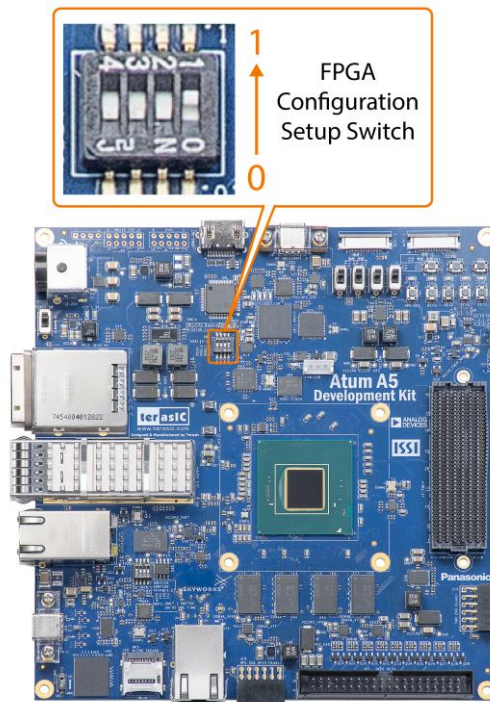

Figure 2-1 The MSEL pin setting
As shown in **Figure 2-1**, the mode select pin of the FPGA on the Atum A5 board has been set to **Active Serial (AS) Fast mode** using **FPGA Configure Setup Switch (SW4)**, For detailed information about SW4, please refer to section 2.2 : *FPGA Configure Setup Switch* part. Thus, the Atum A5 board supports the following configuration modes:
- Active Serial (AS) Fast mode